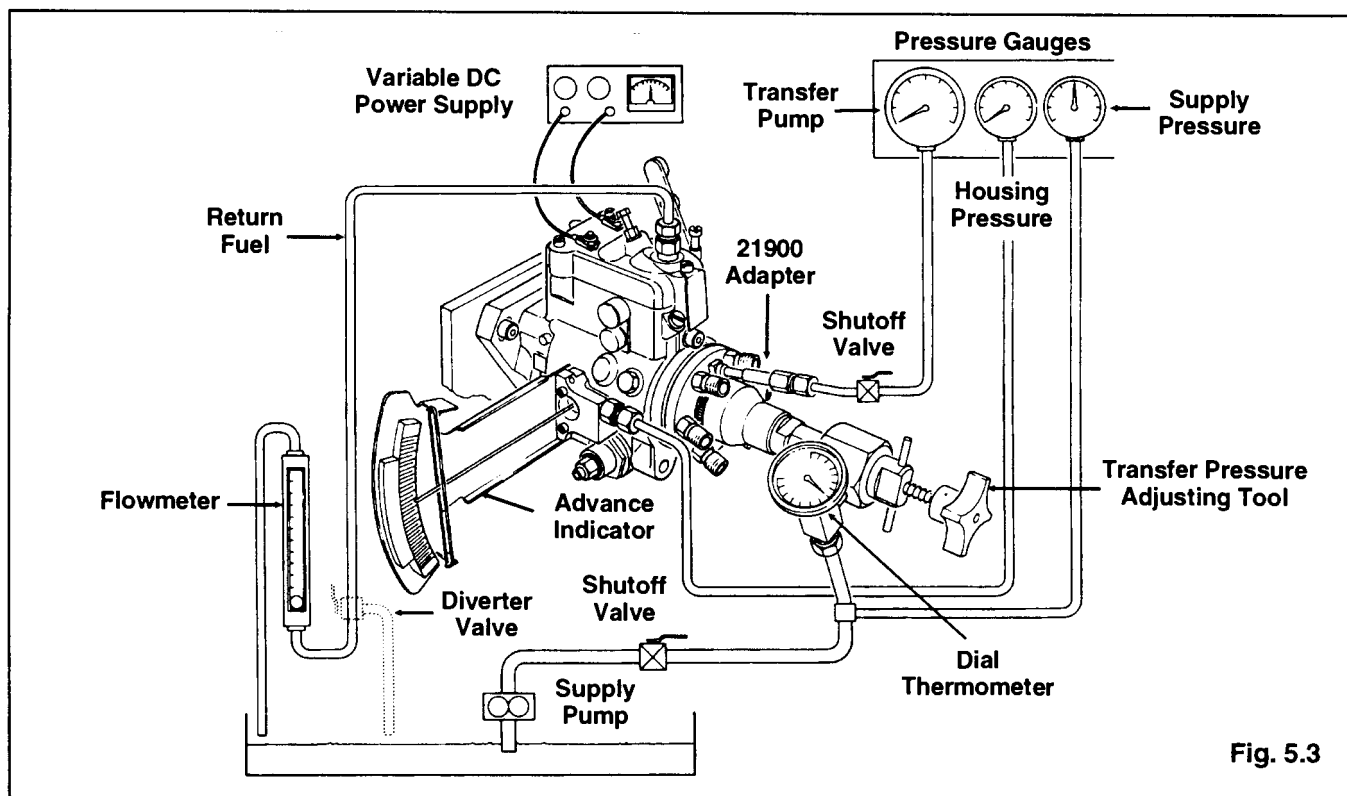

Fig. 5.3
B. General Testing Procedures (Ref. Figure 5.3 and Service Bulletin 80)